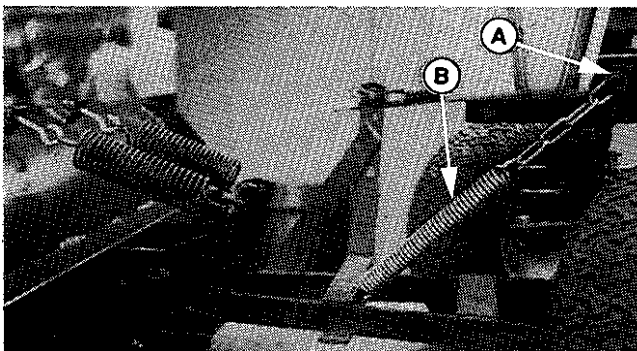

Figure 4. Chain Installation (Group 2 Tractor Shown)
- On left-hand side, remove and discard the upper self-tapping screws that holds bumper to frame. This is the hole used for installing chain in the following steps, using **5/16-18 x 1-1/4 capscrew** (C), two **5/16** washers (B) and one **5/16** locknut (A).
- Insert the **capscrew** (A, figure 4) through tractor frame. From inside the frame, install **5/16** locknut onto capscrew. Tighten snug only at this time. (Spring (B) will be installed in step 7.)
9. Tighten **capscrew** (A, **figure 4** or 5) and nut which hold chain to tractor frame.